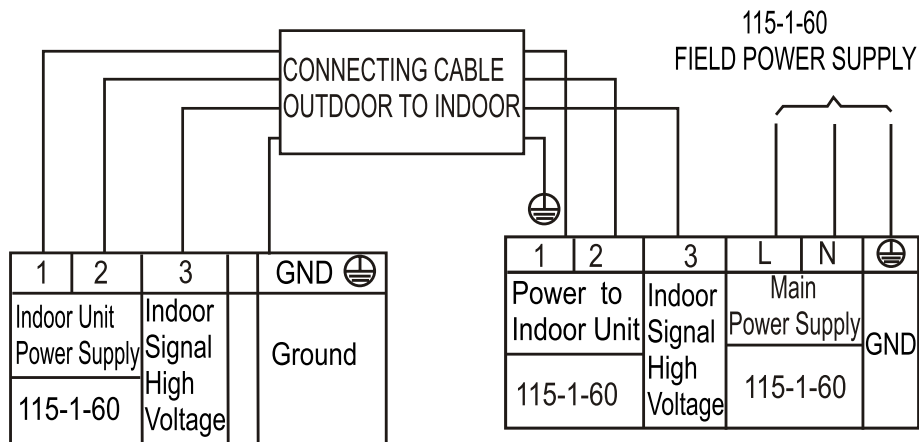
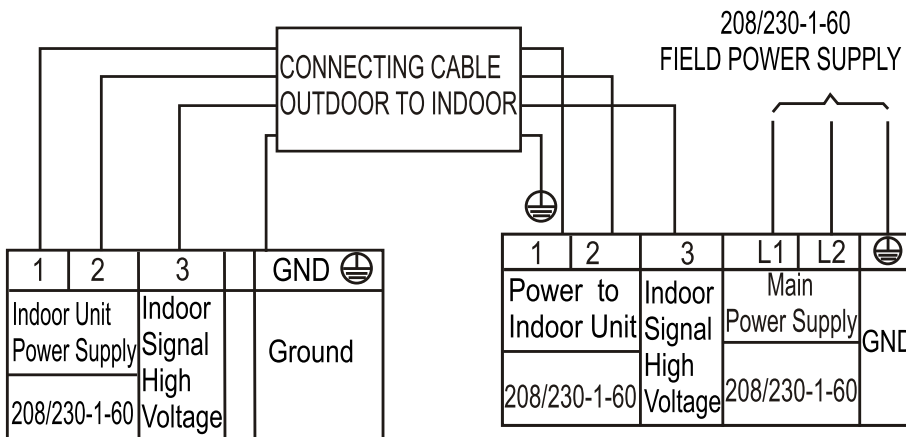

Fig. 24 — Connection Diagram Sizes 9K - 12K (115V)
Fig. 25 — Connection Diagram Sizes 9K - 36K (208/230V)
8. Connect the wiring from the outdoor unit per the connection diagram (see Fig. 24 and Fig. 25).